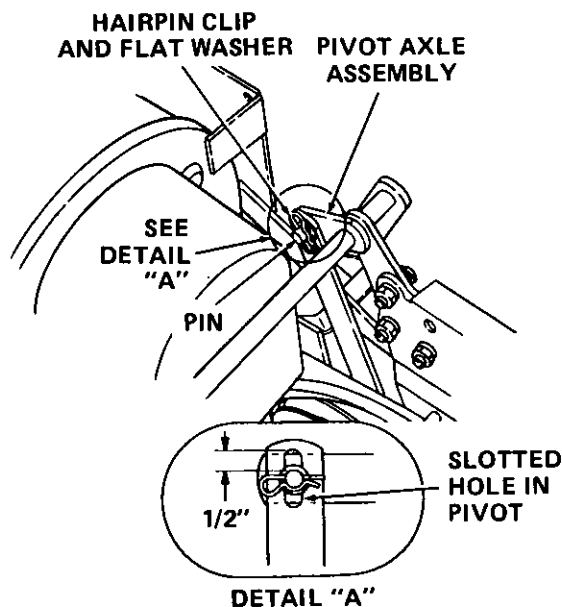

Figure 33
- b. Move pivot axle assembly so pin on pivot axle assembly is approximately 1/2 inch from top of slot in pivot link. Refer to Figure 33.